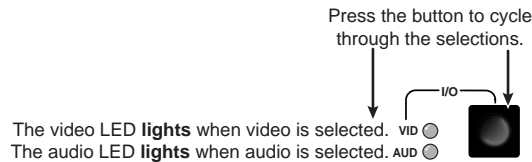

Figure 3-19 — Select video and audio
1. **Audio/video switchers only** — Select both video and audio for viewing (figure 3-19).